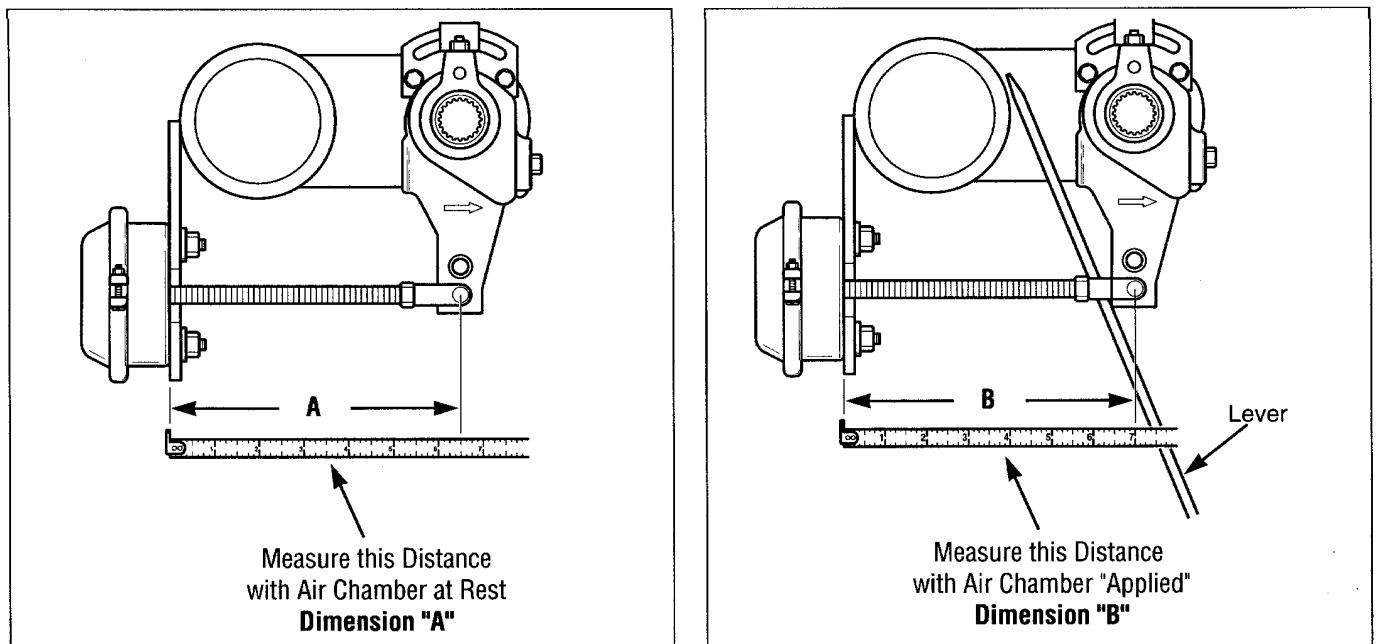

Figure 8-7 Adjust Slack Adjusters
Chock tires and release brakes. Measure the distance (A) with brakes released. See figure 8-7. Use a lever to move slack adjuster until brakes contact the drum and measure the distance (B). Subtract distance A from distance B. The result is the free stroke. Adjust slack adjuster so the free stroke is 3/8 – 5/8 inch on each slack adjuster.